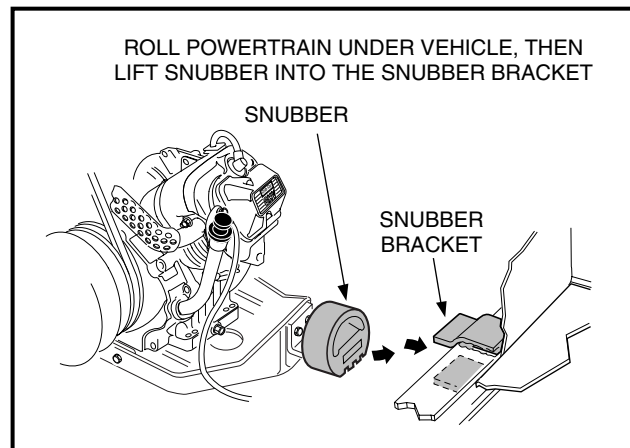

FIGURE 10-91
11. Remove the blocks from under the engine and roll the drive train into position under the vehicle. Then lift the front of the drive train and place the snubber into the snubber bracket in the vehicle frame (**Figure 10-91, Page 68**).